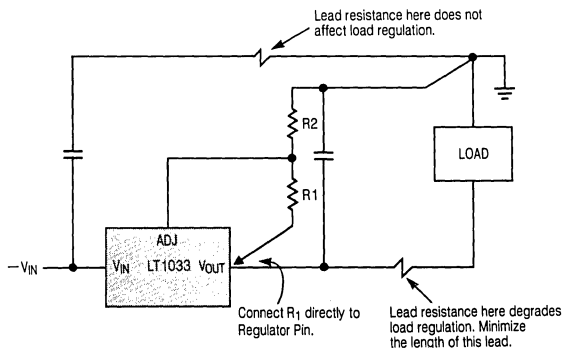

Figure 3
**Proper Connection of Divider Resistors:** The LT1033 has a load regulation specification of 0.8% and is measured at a point 1/8" from the bottom of the package. To prevent degradation of load regulation, the resistors which set output voltage, R1 and R2, must be connected as shown in Figure 3. Note that the positive side of the load has a true force and sense (Kelvin) connection, but the negative side of the load does not.